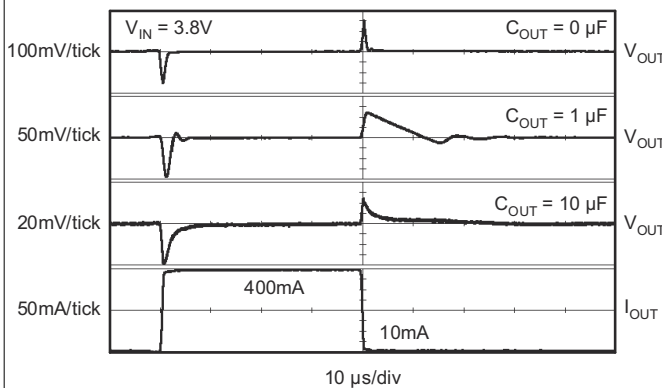

图 5-35. TPS73633 Load Transient Response
The enable pin (EN) is active high and is compatible with standard TTL-CMOS levels.  $V_{EN}$  below 0.5 V (max) turns the regulator off and drops the GND pin current to approximately 10 nA. When EN is used to shutdown the regulator, all charge is removed from the pass transistor gate, and the output ramps back up to a regulated  $V_{OUT}$  (see 图 5-35).